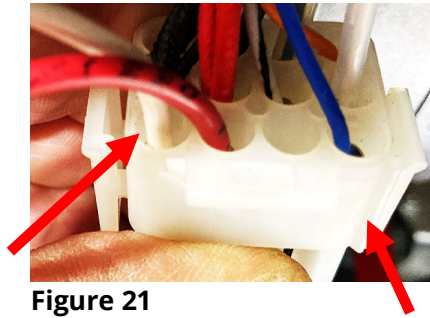

Figure 21
24. Insert the **WHITE** wire with the terminated pin connector of the new harness into pin 10 of the J1 12-pin male connector that was shown in Figure 13, with the large group of wires (see Figure 21).